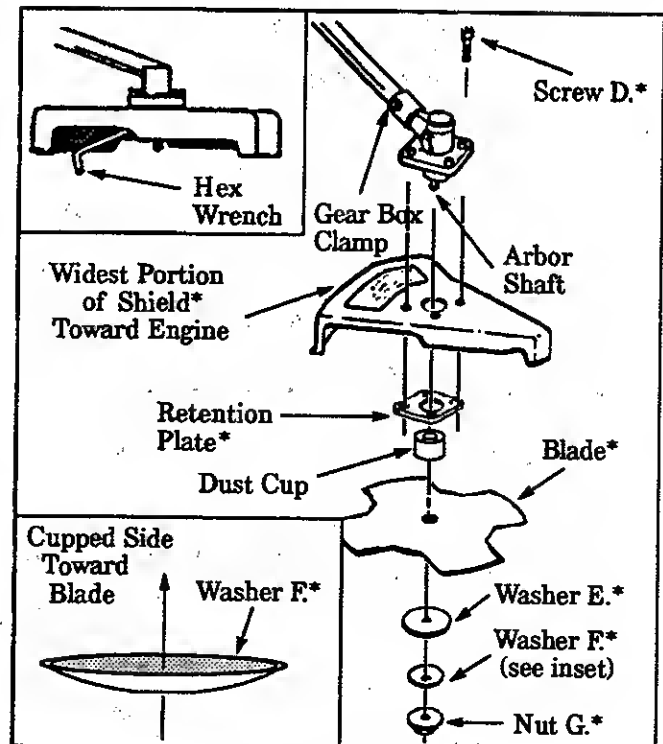

Figure 9
Failure to install the shield in the position shown in Figures 9 and 8 can result in serious injury to the operator. The length of the shield must be aligned with the length of the drive shaft housing. Direct the widest part of the shield toward the engine.
- d. Hold the Retention Plate in position and place the metal Shield under the Gear Box. Align screw holes. Figure 9.
- e. Insert the four Metal Shield Screws "D." (one at a time) through the Gear Box, Shield, and Retention Plate. Figure 9.
- g. Install the Blade over Arbor Shaft, making sure the hole in the center of the Blade is fitted around the raised center step on the Dust Cup. Figure 9.
- h. Install the large Flat Washer "E.", Beveled Washer "F.", and Hex Flange Nut "G." as shown in Figure 9. Be sure Beveled Washer "F" is installed as shown in Figure 9 (inset).
- i. Align the hole in the Dust Cup with the hole in the side of the Gear Box by turning the Arbor Shaft. Figure 9.
- j. Insert the large hex wrench (provided) into the aligned holes to keep the Arbor Shaft from turning. Figure 9 (inset, upper left).